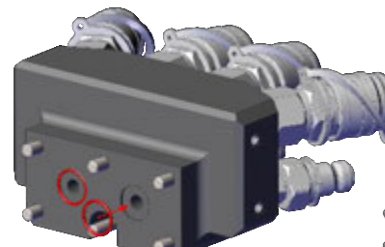

fig 3
4. Use a small amount of white lithium grease to hold the O-Rings to the manifold. (fig 3)